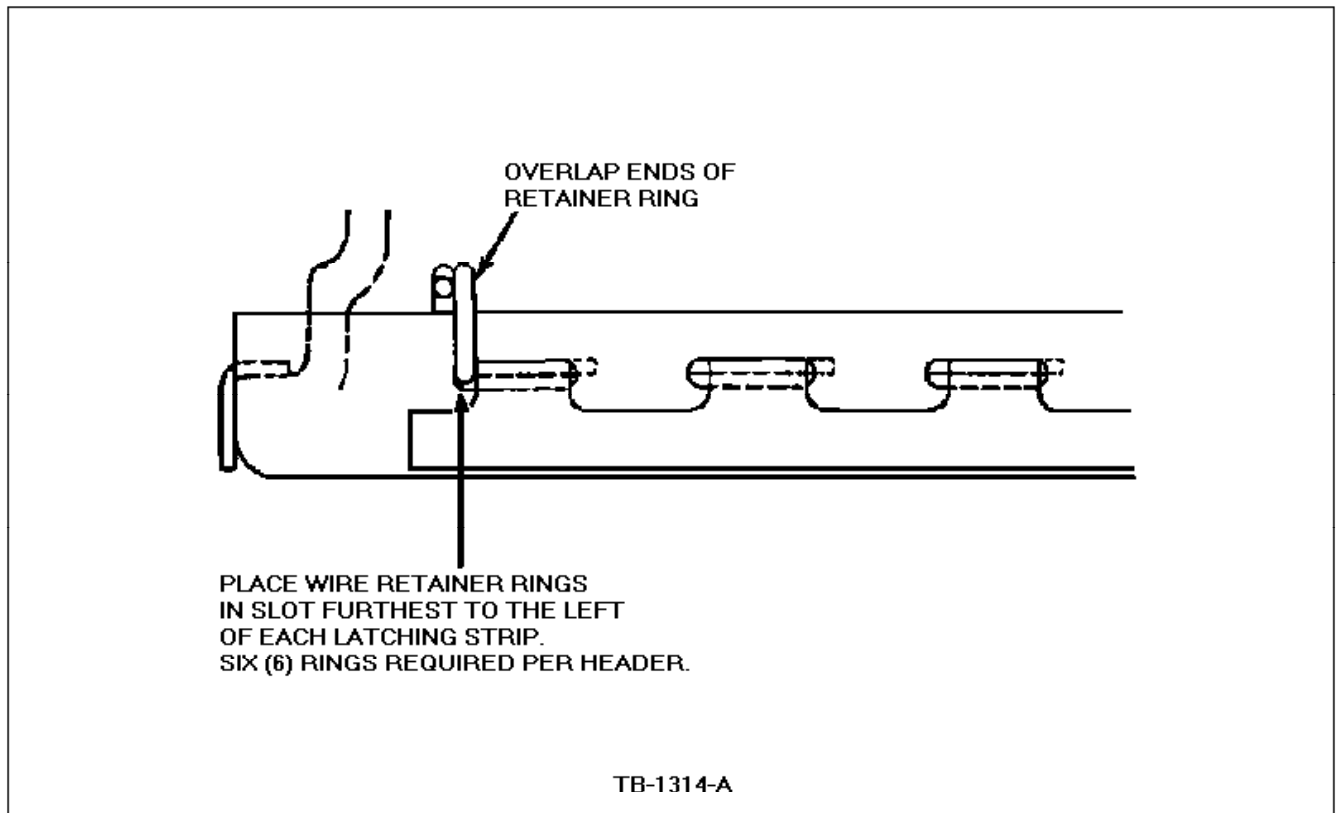

Figure 11 - Article 90-5-16
- At the furthest left slot of each strip, add the wire ring retainer to prevent the strips from sliding back out of the header, Figure 11.